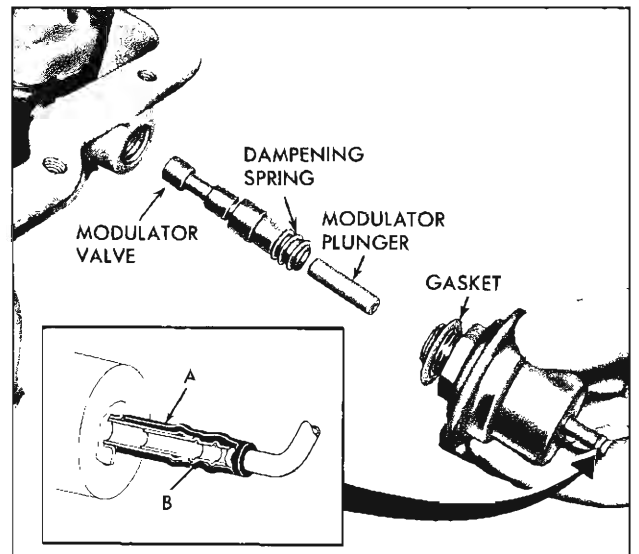

Fig. 15PG—Vacuum Modulator, Dampening Spring, Plunger and Valve
23. Remove the vacuum modulator and gasket, and the vacuum modulator plunger, dampening spring and valve (fig. 15PG).